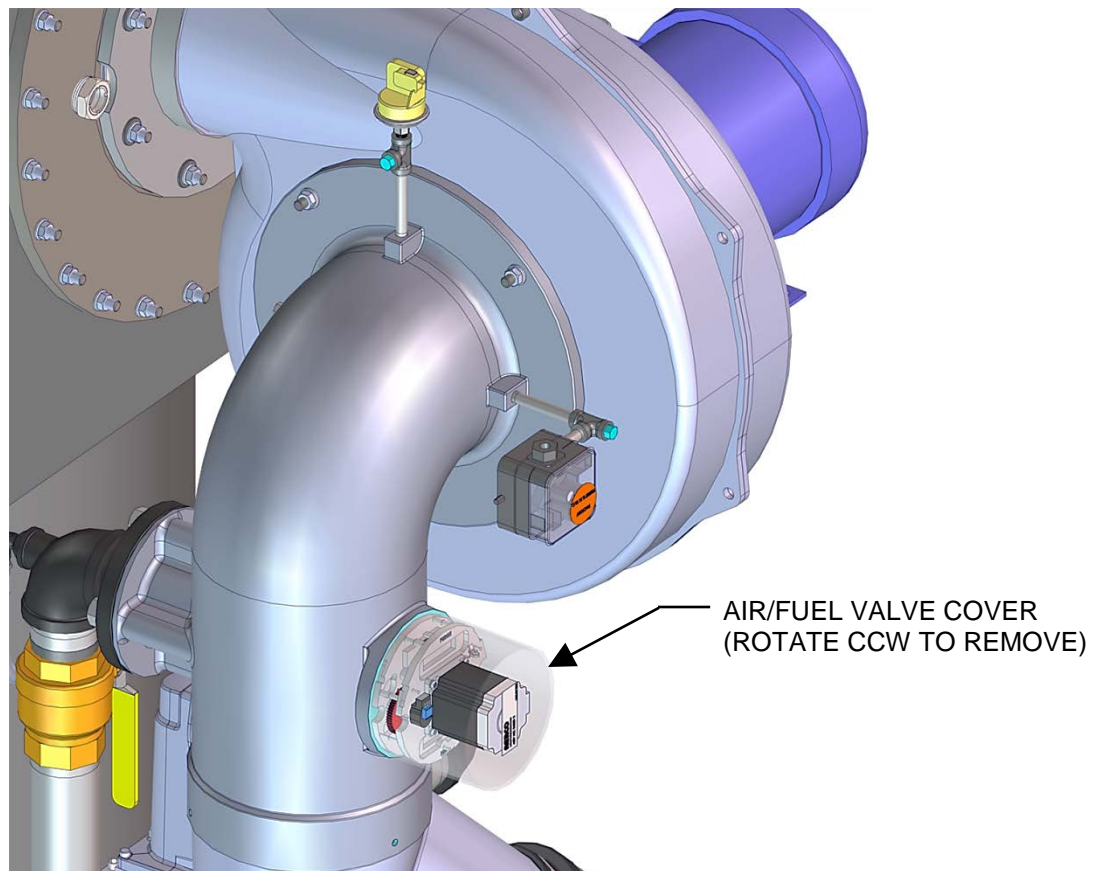

Figure 6-7: Air/Fuel Valve Cover Location
2. Remove the Air/Fuel Valve cover by rotating the cover counterclockwise to unlock it (see Figure 6-7).
3. Remove the Air/Fuel Valve cover (Figure 6-7) by rotating the cover counterclockwise to unlock and lift up to remove.